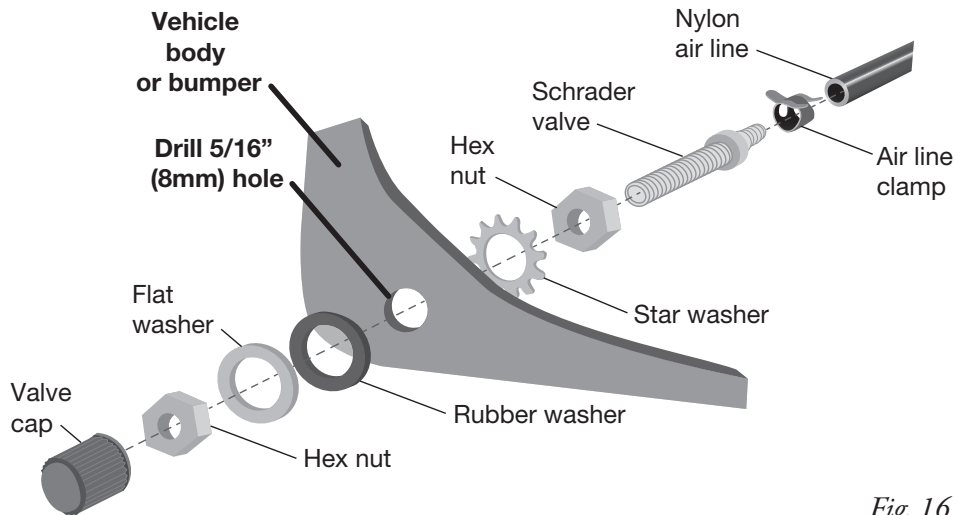

Fig. 16
6. Drill a 5/16" (8mm) hole for the Schrader valve (K) and mount as shown (Fig. 16). Install the air line on the Schrader valve first. The rubber washer (G) serves as an outside weather seal.